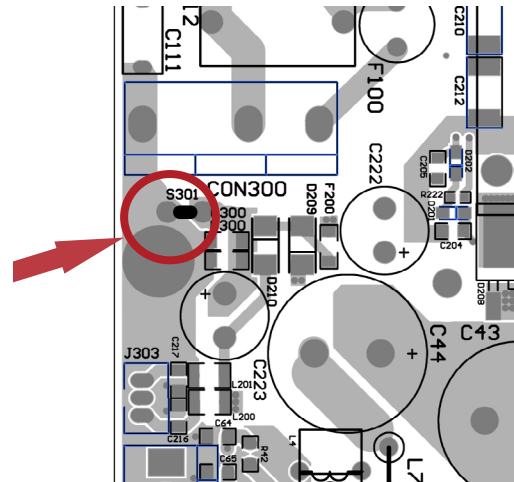

Figure 3
2.1: Refer to Figure 3. Install Jumper wire across S301 location. You may leave R300 and C300 Installed.